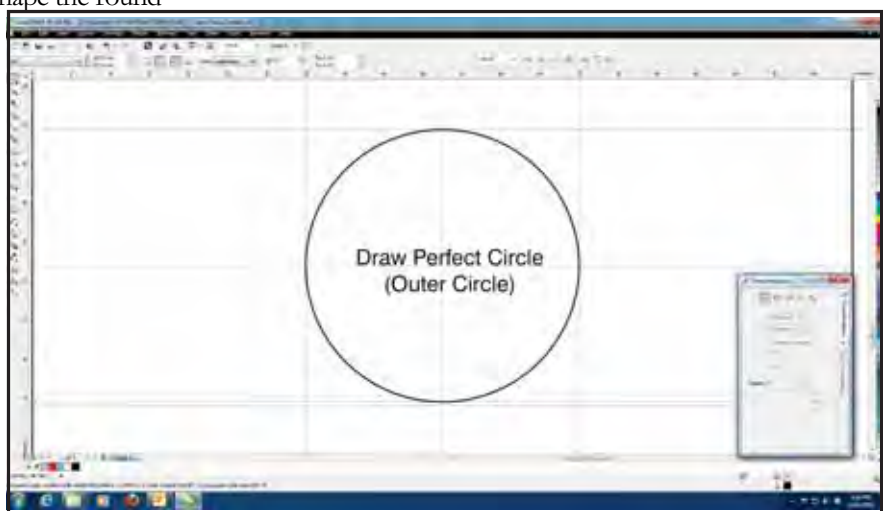

Fig.7
- 2. Hold down control, this gives a perfect circle, and starting from the top left, use your 'ellipse' tool to draw your first circle. Snap this to your new guidelines. See Fig 7.